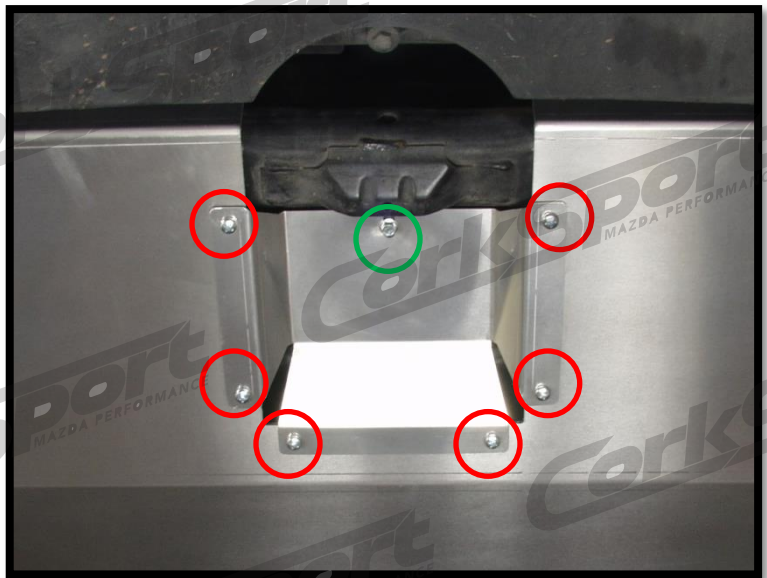

Figure 3b
b) To gain access to the oil filter, remove the 10mm bolt holding the skid tray to the core support (green circle in Figure 3b).
c) Use a Phillips head screw driver to remove the six (6) Phillips head screws (red circles in Figure 3b).